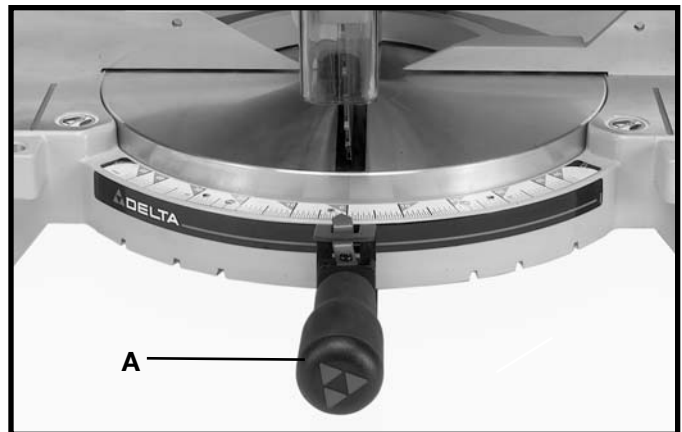

Fig. 7
2. Rotate the table to the left until the index stop engages with the 0 degree positive stop (Fig. 7). Tighten table lock handle (A).